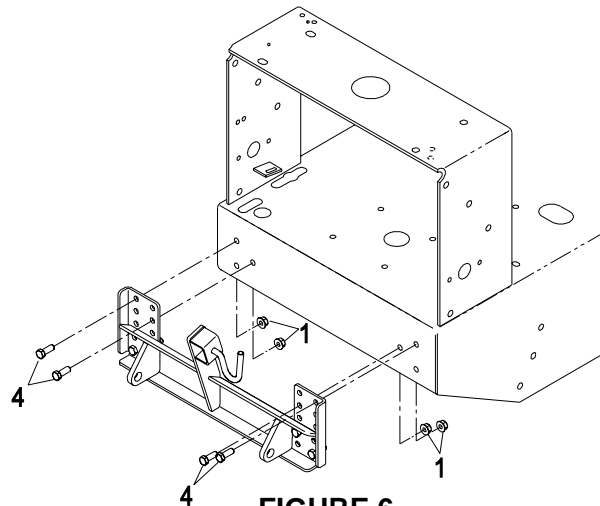

FIGURE 6
3. Install the mount brackets to the mower engine deck using (2) 3/8-16 x 1 1/4 hex capscrews (Item 4) and (2) 3/8-16 flanged nyloc nuts (Item 1) as shown in Figure 6.